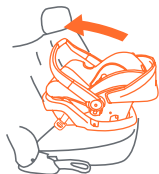

Fig. 45-1
6. Check that toys are removed from carry handle, and then adjust handle into the **REBOUND** position. When this car seat is used with a base, the carry handle must be in the **REBOUND** position (Fig. 45.1).